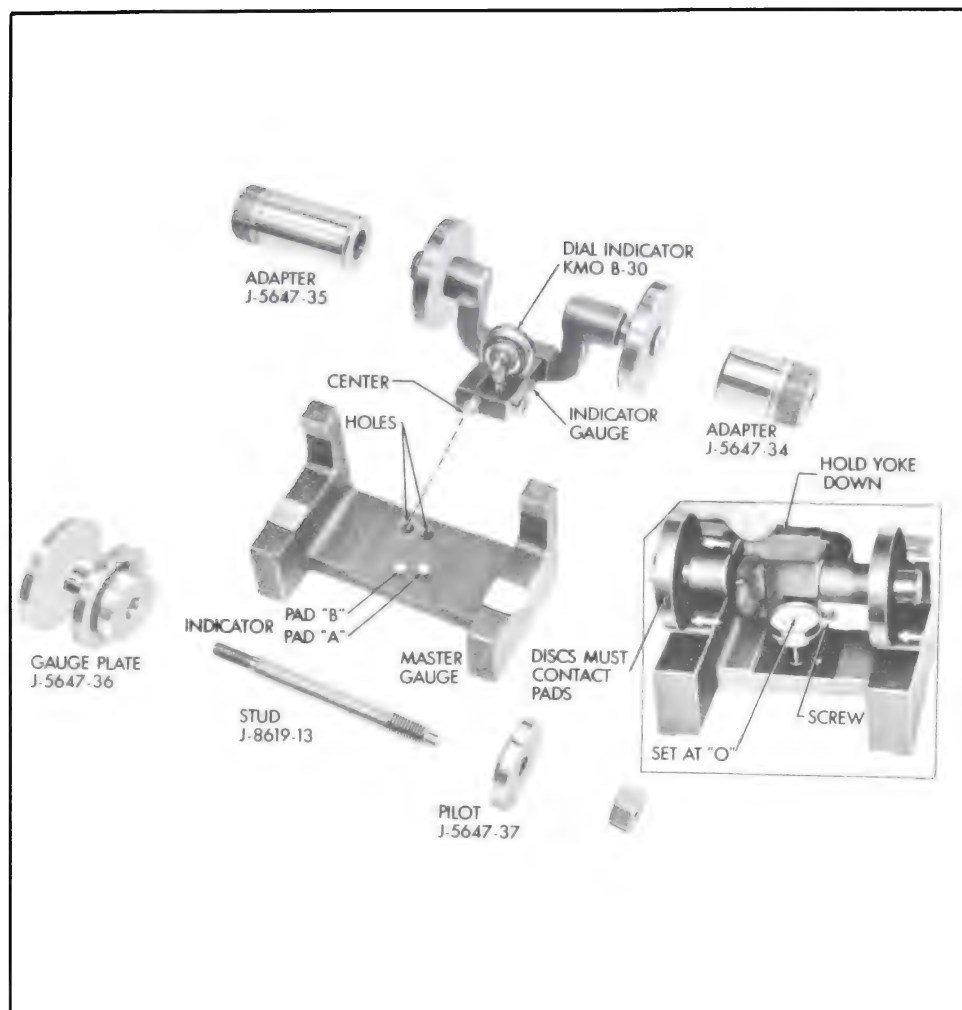

Figure 6-22—Pinion Setting Gauge J-5647 and Adapters
Pinion Setting Gauge J-5647 with Adapter J-5647-35, Adapter J-5647-34, Pilot J-5647-37, Gauge Plate J-5647-36, and Stud and Nut Assembly J-8619-13 is used to set pinion depth. See Figure 6-22. It is not necessary to reassemble and install the pinion to determine the correct pinion depth shim since the pinion depth setting gauge arrangement provides in effect, a nominal or zero pinion as a gauging reference.
3. Place the indicator gauge on the master gauge so that the spring-loaded center is engaged in the centering hole corresponding to the indicator pad "b". See Figure 6-22.